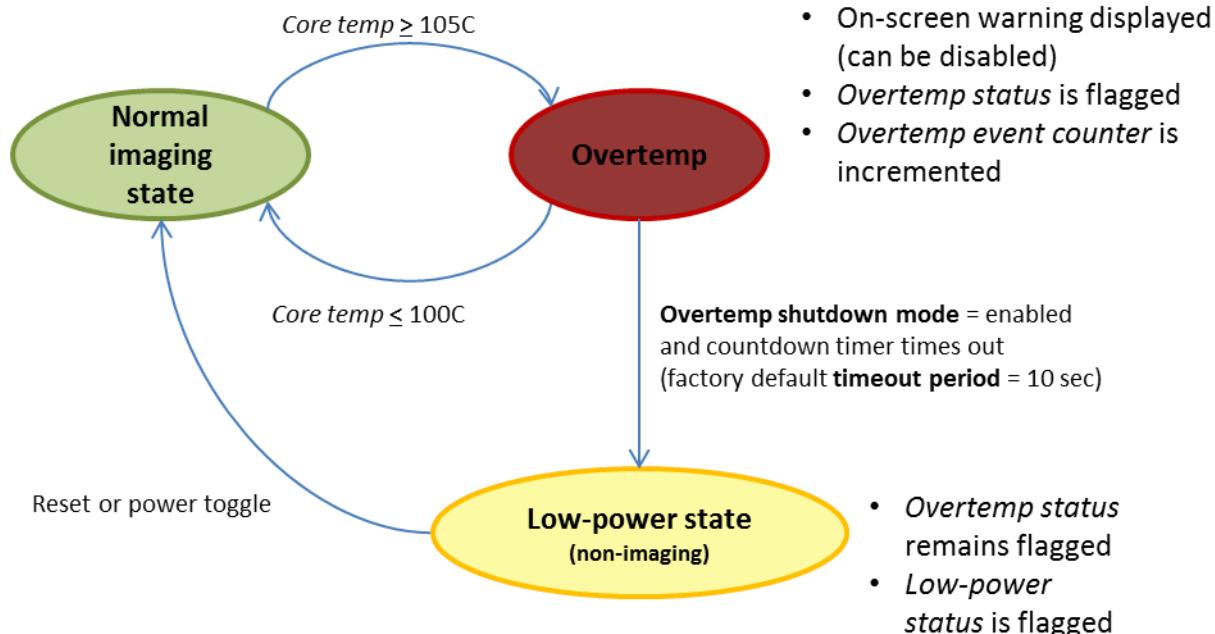

Figure 49: Boson Overtemp and Low-power States
- **Enabled (factory default):** The camera automatically transitions to a low-power state when internal core temperature exceeds the maximum safe value. The camera is capable of responding to commands in the low-power state, but the image pipeline is deliberately disabled to reduce power dissipation and thereby reduce core temperature. As illustrated in Figure 49, the transition between the normal imaging state and the low-power state is via a temporary “overtemp” state, as described below.